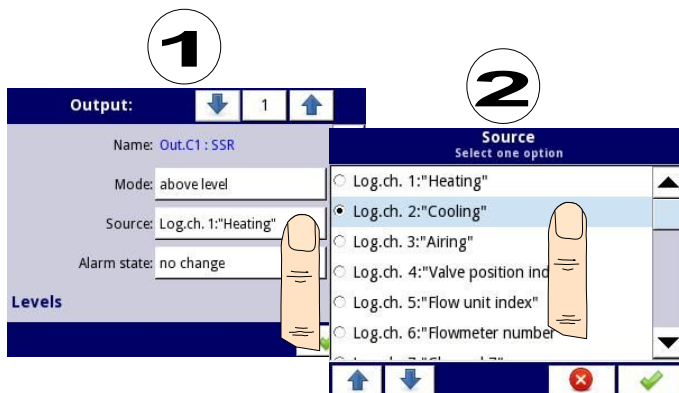

Fig. 7.79. Data source settings for built-in output (for SSR output module)
- **Source** – this parameter contains a list of logical channels (up to 60), where the selected logical channel will be a data source for this built-in output (see **Fig. 7.79**).
- **Source** - this parameter contains a list of logical channels (up to 60), where the selected logical channel will be a data source for this built-in output (see **Fig. 7.79**).